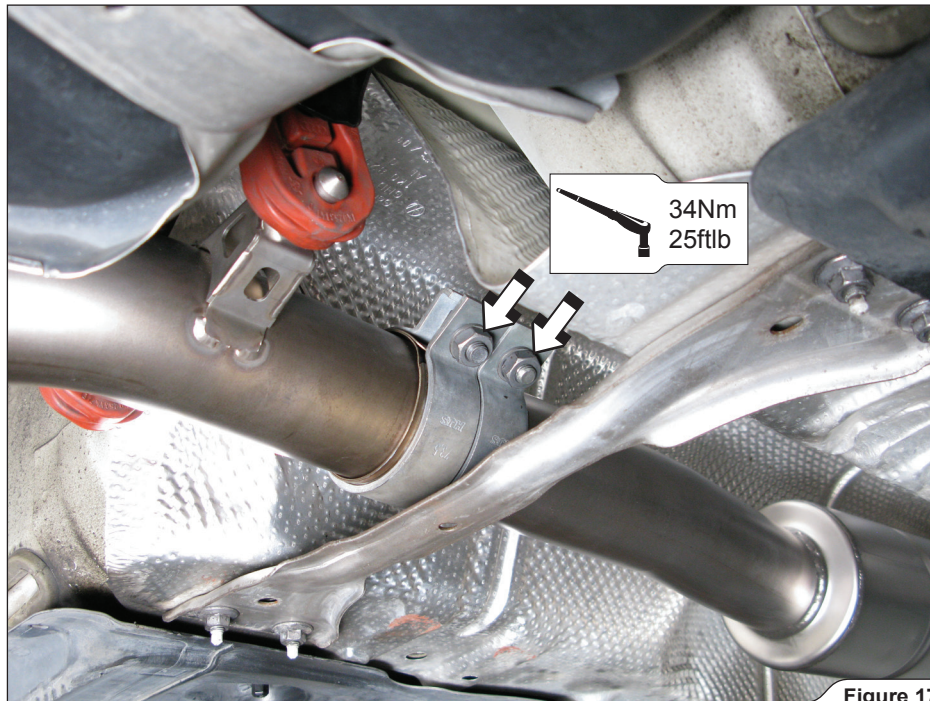

Figure 17
8. **For Slip-On and optional Link-Pipe:** retighten the double clamp to the specified torque (Figure 17).